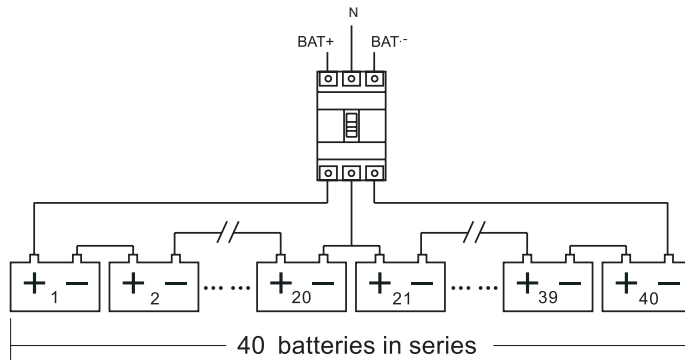

Fig. 5-2 Sketch map of Battery connected
2. One battery pack of the 3A3 Pro UPS consists of 32-40 batteries in series, 40PCS configuration is illustrated as an example in Fig. 5-2. which is divided into two parts by a neutral wire connecting to the middle of the pack (where the No. 20 and No. 21 batteries are connected). Therefore there are altogether three wires connected with the UPS terminal blocks including the positive and negative wires of the battery pack. The battery cables should connect to a DC breaker firstly and then it can be connected to the terminal block of the UPS. Please refer to the following wire connection diagram for detailed information.